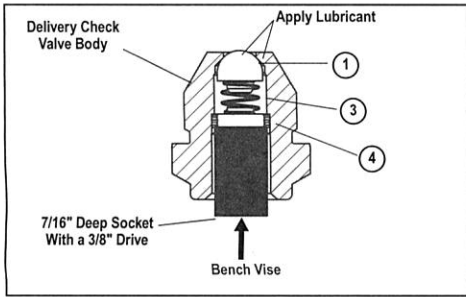

Figure 5 - Check Valve Assembly
Install the delivery check valve plug that was removed in step 1 of the disassembly, into the air dryer end cover. See Figure 5. Torque the plug to 130-170 inch pounds.
2. Lubricate the entire spherical surface of the check valve (1) and bore chamfer of the check valve housing with the lubricant contained in this kit as shown in Figure 5. **Note:** Use only the lubricant contained in this kit.
3. Place the retainer (4), spring (3) and check valve (1) sub-assembly into the check valve housing. Press the retainer (4) using a 7/16" deep socket with a 3/8" drive, and a vise as shown in Figure 5.
6. Install the o-ring (1) on the outer body of the delivery check valve assembly. Ensure the o-ring (1) is seated properly and not twisted. Lubricate the o-ring (1) with the lubricant provided in this kit. **Note:** Use only the lubricant contained in this kit.